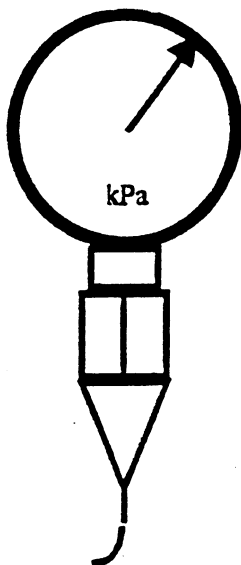
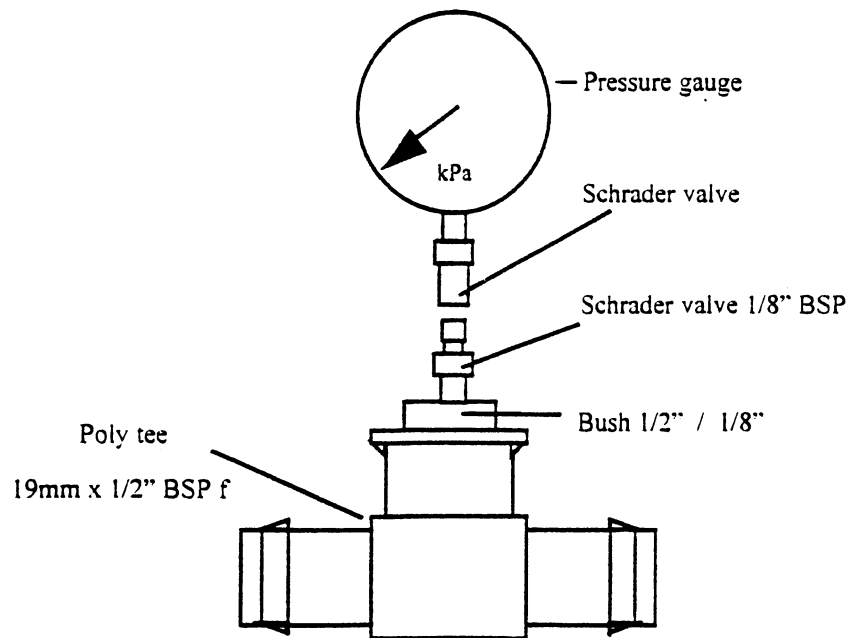

Figure 1: Pitot Tube
Figure 2: Schrader Valve
- A Pitot tube attachment (pronounced pit-oh) (Figure 1), or a threaded 15 mm PVC tee and fittings such as reducing bushes for small low-level sprinklers, or a Schrader valve (Figure 2), or a needle valve fitting.